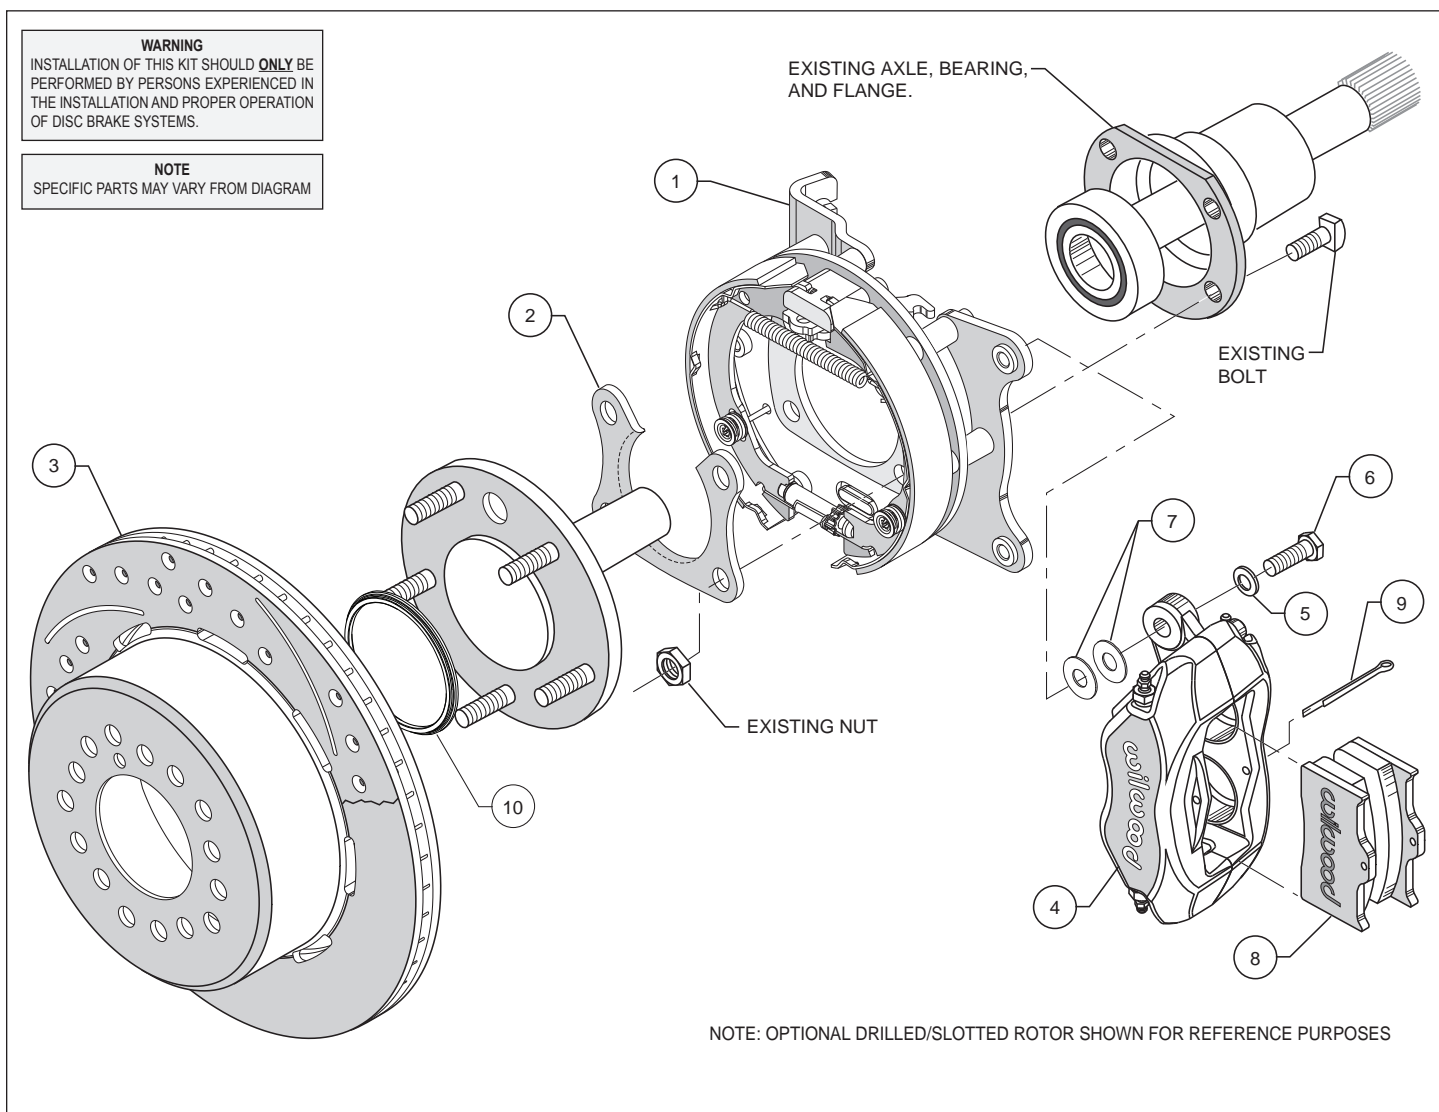
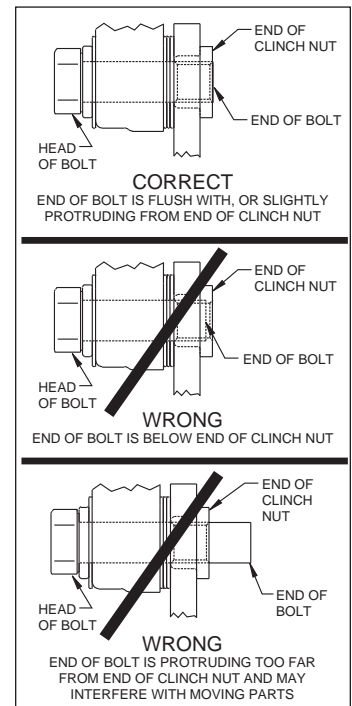

Figure 1. Typical Installation Configuration
Figure 5. Clinch Nut Engagement Diagram
Assembly Instructions (numbers in parenthesis refer to the parts list, and Figure 1 on the preceding pages): **CAUTION:** All mounting bolts must fully engage clinch nuts. Be sure to check that all bolts are either flush or protruding through flanged side of clinch nut after shimming, Figure 5.
- Orient the bracket assembly (1) as shown in Figure 1 and Photo 1 and slide it onto the axle. Insert the axle and bracket into the axle housing. Ensure that the bracket assembly backing plate fits flush against the axle housing flange.
- Install the bearing retainer (2) with the opening pointing upward and the lip facing inward (toward the bearing), as shown in Figures 1 and 4, and Photo 2. Secure retainer and bracket assembly to the axle housing flange using the Original Equipment Manufacturer (OEM) bolts and nuts, Figure 1. Apply red *Loctite*® 271 to the OEM bolt threads and torque to OEM specifications.
•Align the correct hole pattern in the rotor/hat with the stud pattern on the axle flange and slide into place, Figure 1 and Photo 3. **NOTE:** The rotor/hat must fit flush against the axle flange or excessive rotor run out may result. Install three lug nuts (finger tight) to keep the rotor/hat assembly in place while continuing with the installation. **NOTE:** Some OEM and after market axles come with stud sizes larger than 0.50" diameter. Verify stud size and have a qualified machine shop drill the bolt circle of the hat/rotor to the correct stud size, if necessary.
•**NOTE:** Please reference the caution statement at the beginning of the assembly instructions. Mount the caliper (4) onto the caliper mounting bracket (1) using bolts (6) and washers (5), as shown in Figure 1. Initially place two .035" thick shims (7) on each bolt between the caliper and the bracket, Photo 4. Temporarily tighten the mounting bolts and view the rotor (3) through the top opening of the caliper. The rotor should be centered in the caliper, Photo 5. If not, adjust by adding or subtracting shims between the bracket and the caliper. Always use the same amount of shims on each of the two mounting bolts. **NOTE:** The end of each bolt must be flush with or slightly protruding from the head of the clinch nut, as shown in Figure 5. If necessary place spare shims between washer (5) and caliper mounting ear to achieve the proper clinch nut engagement. Once the caliper alignment and clinch nut engagement are correct, remove the bolts one at a time, apply red Loctite® 271 to bolt threads, and torque to 40 ft-lb.